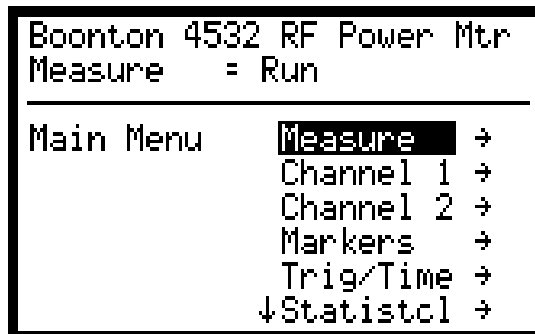

Figure 3-9. Main Menu Screen
3.5.1 **Entry.** When the **Menu** key is pressed, the instrument enters Menu Mode (See Figure 3-9). The first time the **Menu** key is pressed after power-up, the instrument will always enter Menu Mode displaying the Main Menu. Subsequent entries into Menu Mode will return the user to the same position in the menu tree that was last used.